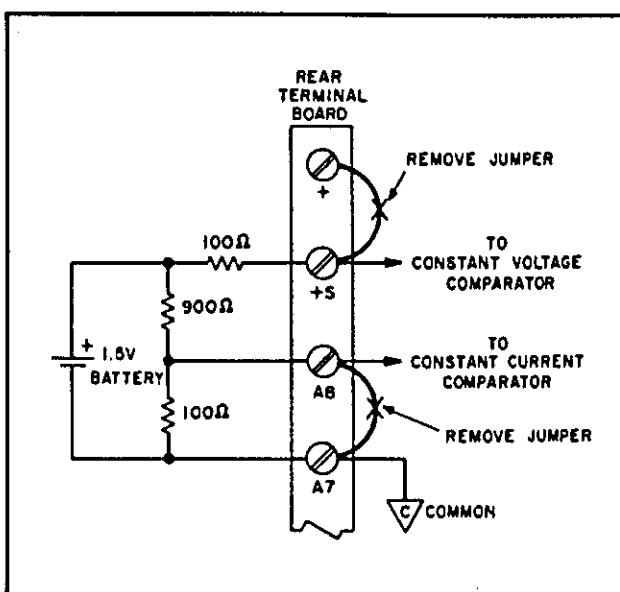

Figure 5-9. Open Loop Test Setup, Amplifier Circuit
b. Connect external battery and resistors as shown in Figure 5-9. A "D"-size flashlight cell is adequate for this test.
c. Before turning on supply, connect dc voltmeter across output of A1U1 between TP9 and terminal A7 (C). Ensure that jumper A1R149 is removed.
a. Connect test setup of Figure 5-9.
a. Use test setup of Figure 5-9. Ensure that circuit is open loop (jumper A1R149 removed).